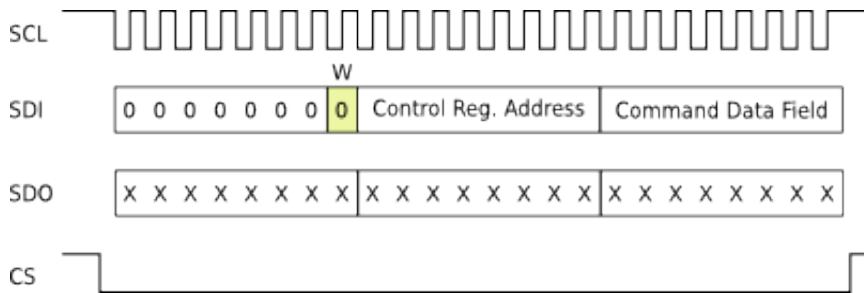

Figure 8: Sequence for issuing Commands to SIF2 through the SPI interface.
- writing configuration data to the device’s control logic as shown in Fig. 8.